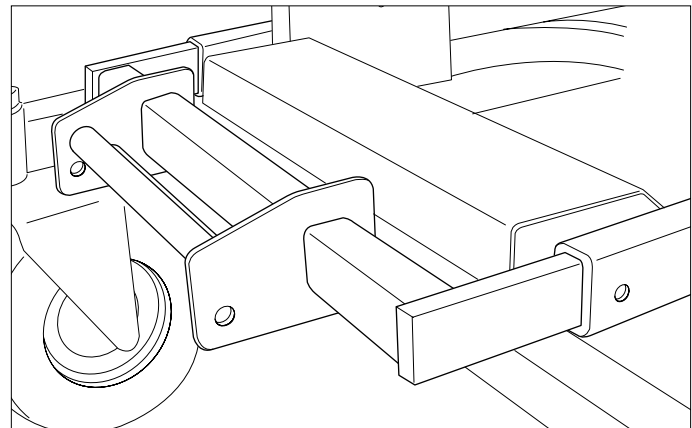

Figure 43. Weight Rack Installation
3. Slide the weight mount rack into the main frame tubes and align with the holes drilled through the frame (see Figure 43). It may require you drive the arms into the frame tubes using a wooden block and hammer.